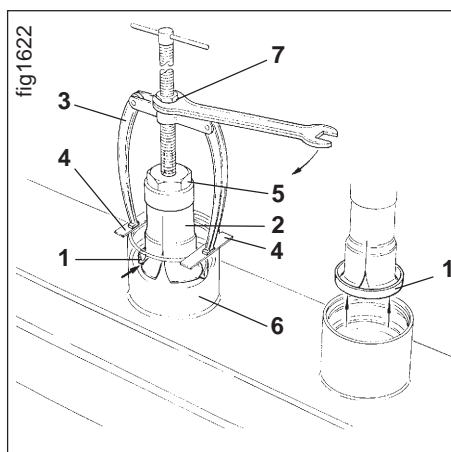

Fig. 19.22
- An internal remover (Fig. 19.22/2) with counter supports (Fig. 19.22/3)
- Two flat bars (Fig. 19.22/4).
Removing the external support ring (Fig. 19.22/1):
- insert the internal remover (Fig. 19.22/2) into the hole
- by tightening the adjusting nut (Fig. 19.22/5) the removal flanges are spread apart and the sharp projections (Fig. 19.22/arrow) press behind the rounded edge of the external support ring
- lay two flat bars (Fig. 19.22/4) on the support tube (Fig. 19.22/6)
- support the counter supports (Fig. 19.22/3) on the flat bars (Fig. 19.22/4)
- hold on to the grip and tighten the hex nut (Fig. 19.22/7). This pulls out the external support ring (Fig. 19.22/1). When the external support ring has been somewhat loosened, tighten the adjusting nut (Fig. 19.22/5).